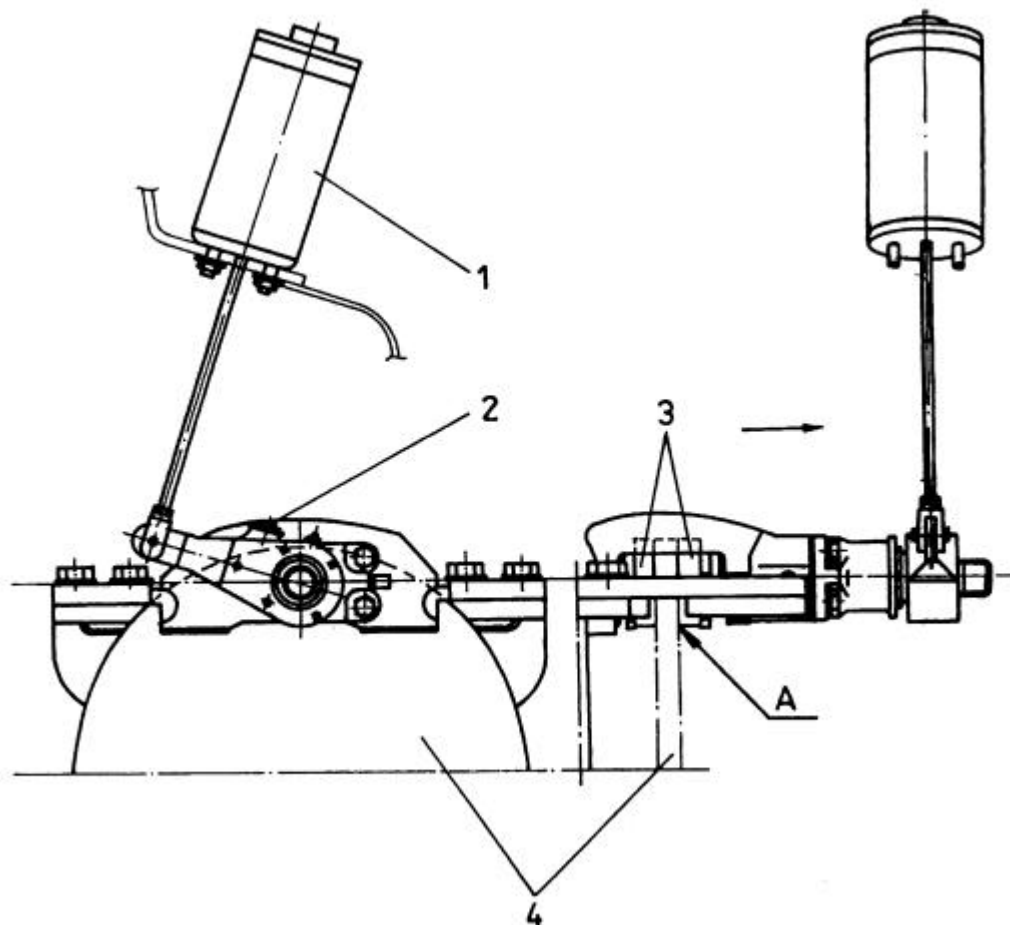

Fig. 5.15. Parking Brake
The parking brake is mounted on the front differential housing. The principle of operation is shown in Fig. 5.15. It is a disc type brake that is spring actuated and hydraulically released. The brake is electrically controlled with a switch located on the instrument panel, see INSTRUMENTS AND CONTROLS.
3. With the parking brake released set the worm slack adjuster so as to obtain a total gap of 0.5 to 0.75 mm between the brake disc and brake shoe. Take the measurement in mid position of brake lining "A" as shown in Fig. 5.15. after placing the brake head in the utmost position in the direction shown by the arrow, Fig. 5.15.